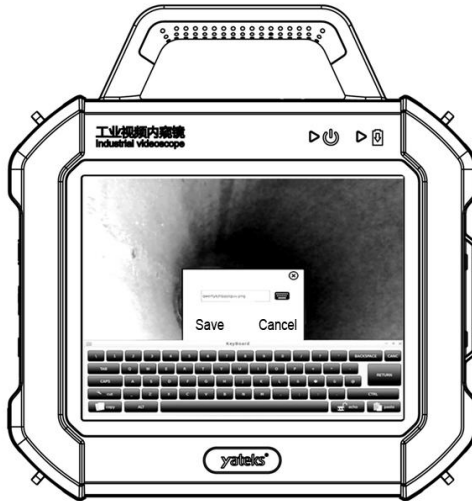

Figure 9.12 Renaming the image
- 4) Click  to rename the image (as shown in Figure 9.12). Click  to open the onscreen keyboard. Click “Save” to rename it as the new name entered. Click “Cancel” to return the current image and stop renaming.